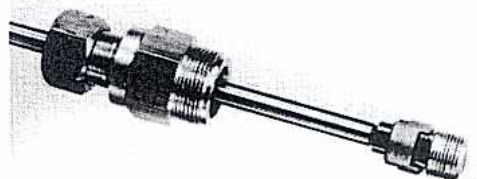

FIGURE 22
18. Advance boring bar. FIGURE 22.